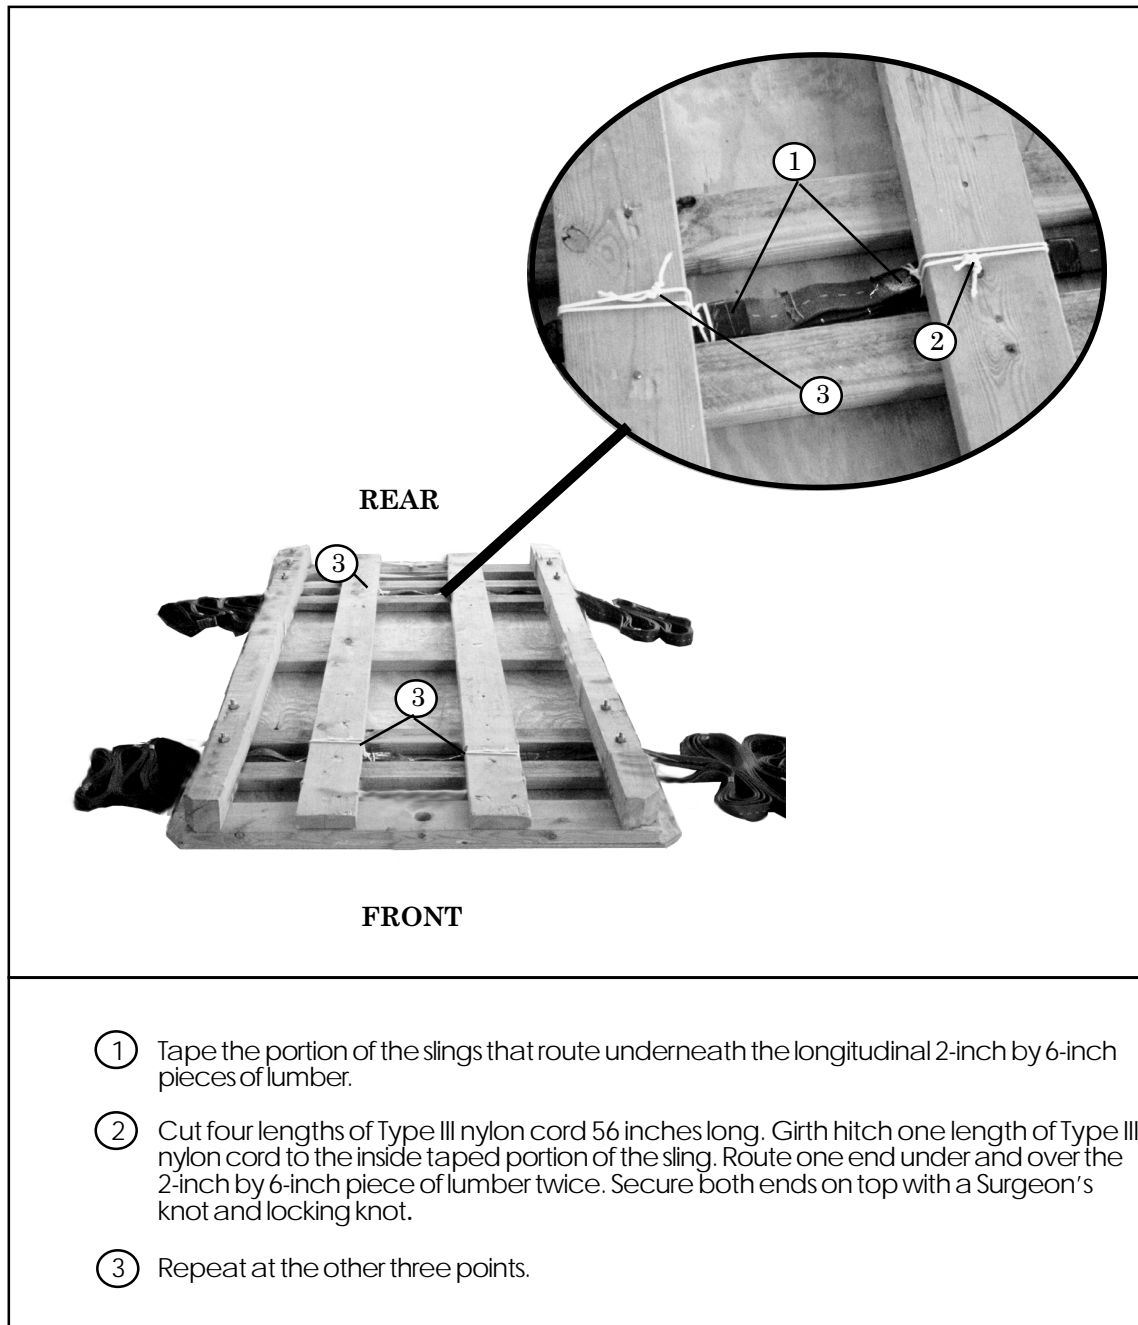

Figure 4-3. Suspension Slings Secured to Platform
- 4-3. Mark the center of two 20-foot, 2-loop suspension slings with tape. Route the slings through the suspension points of the platform with the tape at the center of the platform. Secure the slings to the platform as shown in *Figure 4-3*.